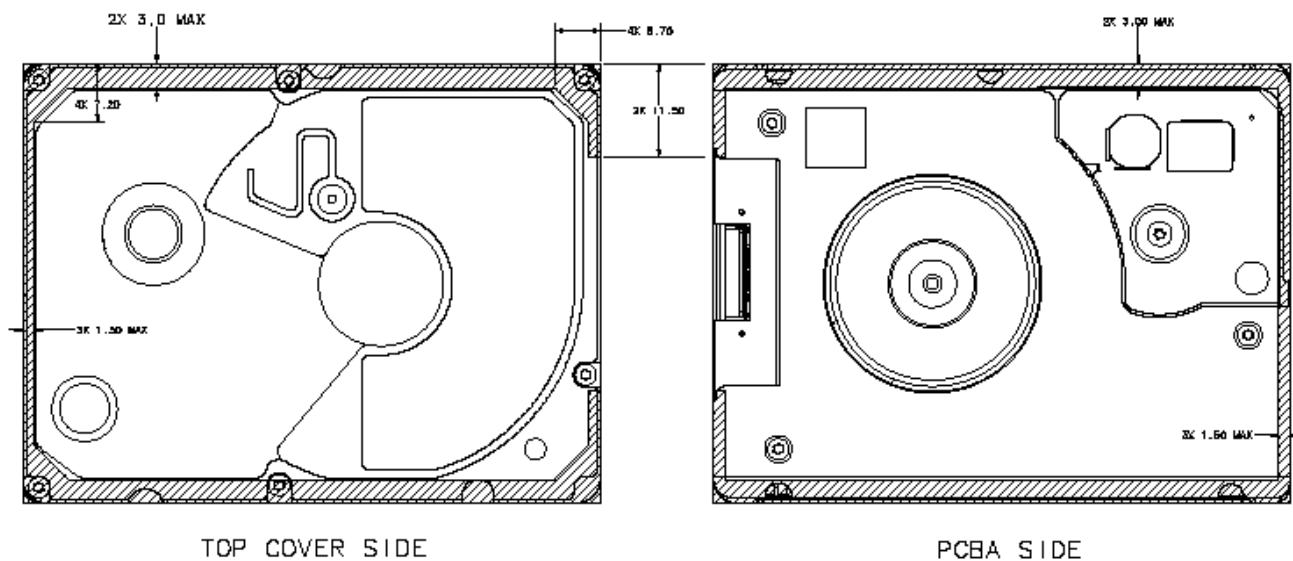

Figure 9. Lyrion Series Area for Protective Mounting
- There are guides along the side for mounting. Refer to figure on areas (refer to Figure 9, shaded area) where the mounting material can rest for mounting.